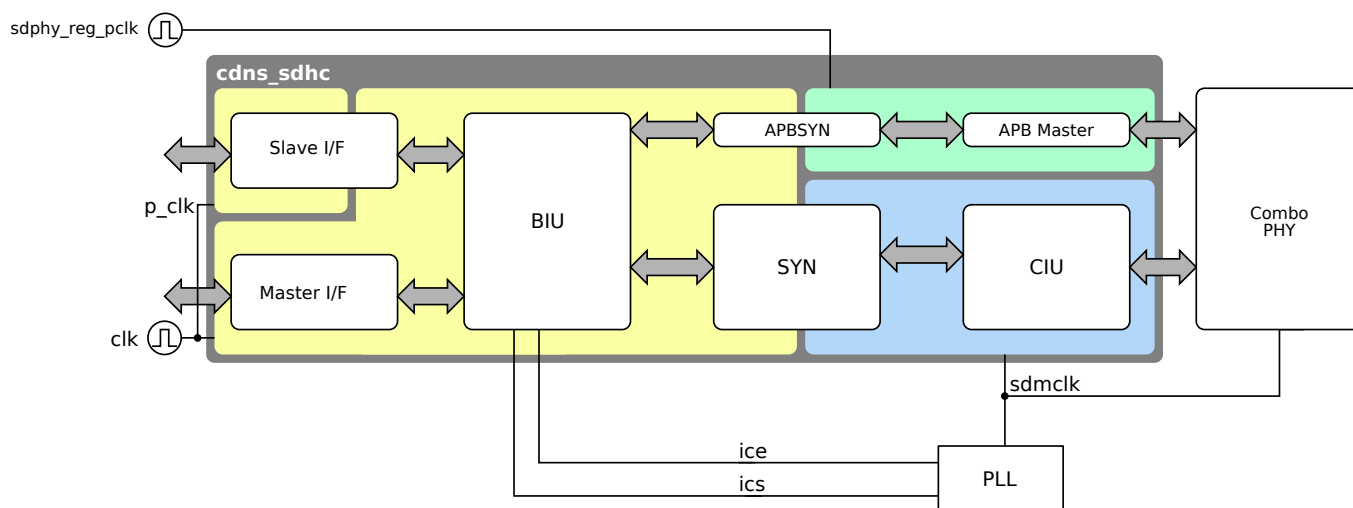

Figure 29. Clock Diagram (AXI Interface)
The SD/eMMC Host Controller has several clock domains which are shown in Figure 29 and 30 and are described in Table 29. Due to the Slave Interface configurability, the clock connection looks different depends on whether the AXI Slave Interface (Figure 29) or the APB Slave Interface (30) is connected.